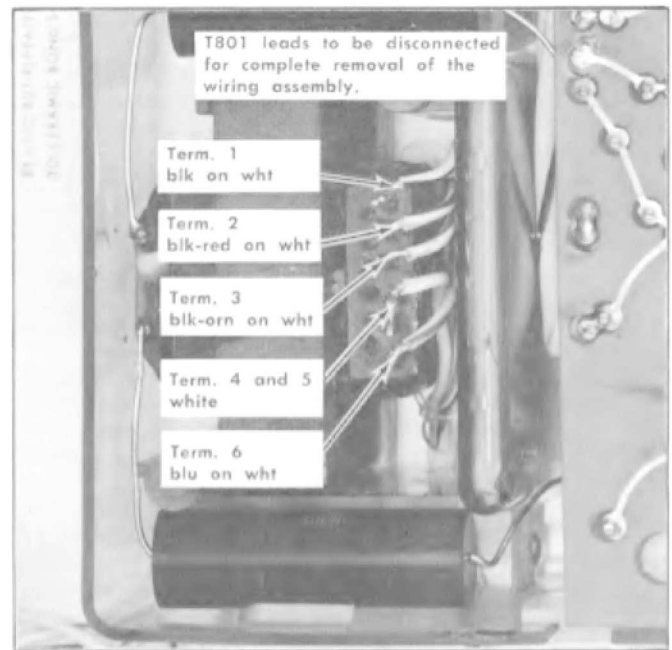

Fig. 4-12. High-voltage compartment on the bottom of the Type 568 with the high-voltage shield and compartment cover removed.
4. To remove the complete wiring assembly from the high-voltage compartment, unsolder the five insulated wires from the high-voltage transformer, T801 (see Fig. 4-12). The other leads are long enough to allow the assembly to be lifted out of the compartment to reach the components on both circuit boards.